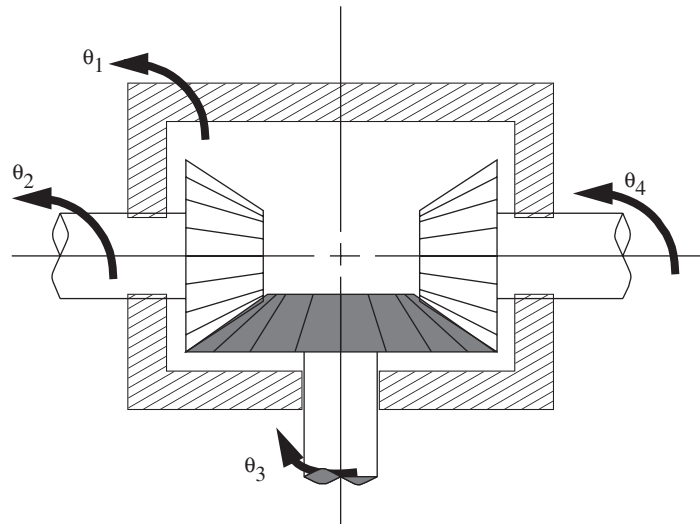

FIGURE 12.44
Differential gears permit the subtraction or addition of shaft rotations using a combination of three bevel gears and an outer carrier that can also rotate. The differential gear set in Figure 12.44 is normally used by holding one of the gears (2, 3, or 4) fixed to the carrier (1). This is particularly helpful when a single power source will drive multiple parallel outputs. As an example, differential gears allow car tires to move at different rates, something very important when turning.